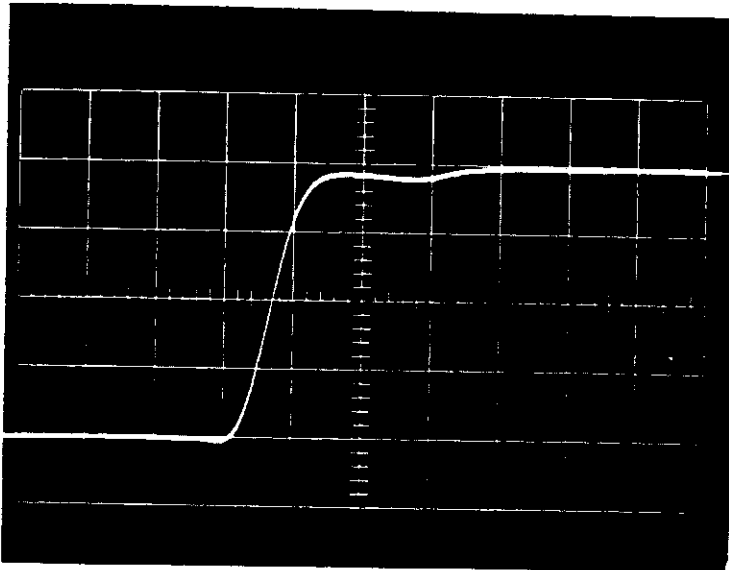
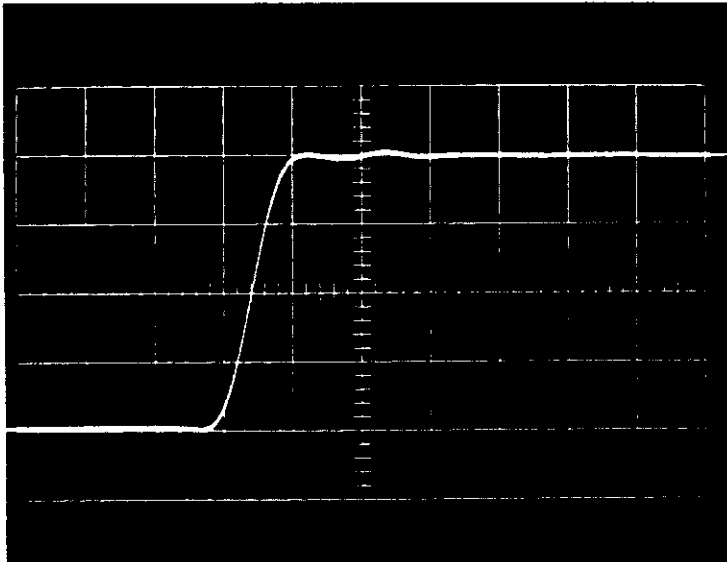

Figure 2-4.
Figure 2-5.
b. EFFECT OF IMPROPER TERMINATION (Figure 2-4)
Let us first consider the 50-ohm coaxial cable as a transmission link between some 50-ohm signal source and an oscilloscope. Assume that we have a 50-ohm generator which develops a .4-nanosecond rise time pulse and that it is desired to view this pulse on the oscilloscope using the Fairchild Type 79-02A 100 Mc Dual Trace Amplifier Plug-In. We must then transmit this pulse from the generator to the oscilloscope without degrading the signal. Under these conditions, no mismatch exists at the source; however, at the load end of the coaxial which is connected directly to the oscilloscope input, the line sees one megohm shunted by 14 pf of capacity. Due to the mismatch at the oscilloscope, a reflected voltage is transmitted from the mismatch back to the generator where the energy will be dissipated in the 50-ohm load. See Figure 2-4.
c. EFFECT OF SOURCE AND LOAD TERMINATION (Figure 2-5)
Let us examine more closely the effects of mismatch on improper termination. When a mismatch occurs within the system, there will be a reflected voltage. This reflected voltage is a product of the input signal voltage and the coefficient of reflection which can be designated as the parameter (ρ). If the load impedance is much greater than the cable impedance, then $\rho \rightarrow 1$. If the load impedance approaches infinity, then the signal as viewed will be twice the output of the generator, and conversely if the load impedance is equal to zero, a short circuit exists and the signal output will be zero. When the transmission line at the load end sees a mismatch which is not a perfect open circuit, reflections occur causing signal deterioration. In order to obtain optimum response and pulse fidelity, it is necessary to terminate the load end of the line in its characteristic impedance. See Figure 2-5. The line is now terminated at both ends.
It can be seen that the reflection which was apparent in Figure 2-4 has been removed and the rise time has improved.
This shows an improvement over Figure 2-4 where a 42" unterminated cable was used. However the response and pulse fidelity is not of the quality shown in Figure 2-5 where a properly terminated line was used.